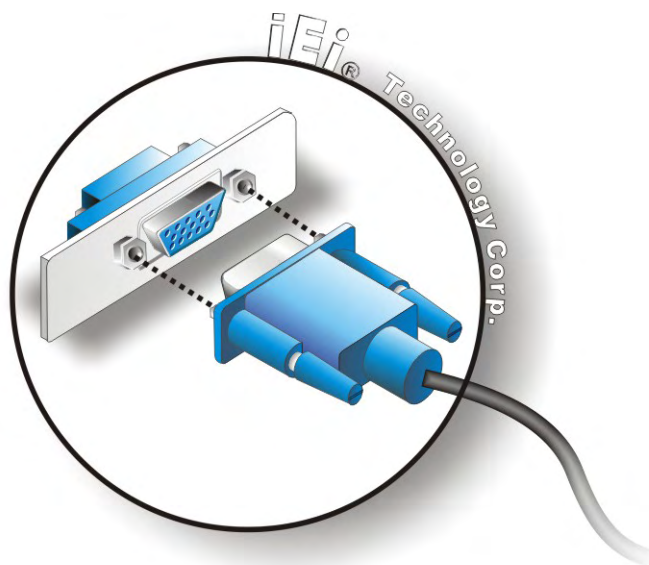

Figure 3-14: VGA Connector
- Step 3: Insert the VGA connector** Once the connectors are properly aligned with the insert the male connector from the VGA screen into the female connector on the ICEROCK-08A. See Figure 3-14.